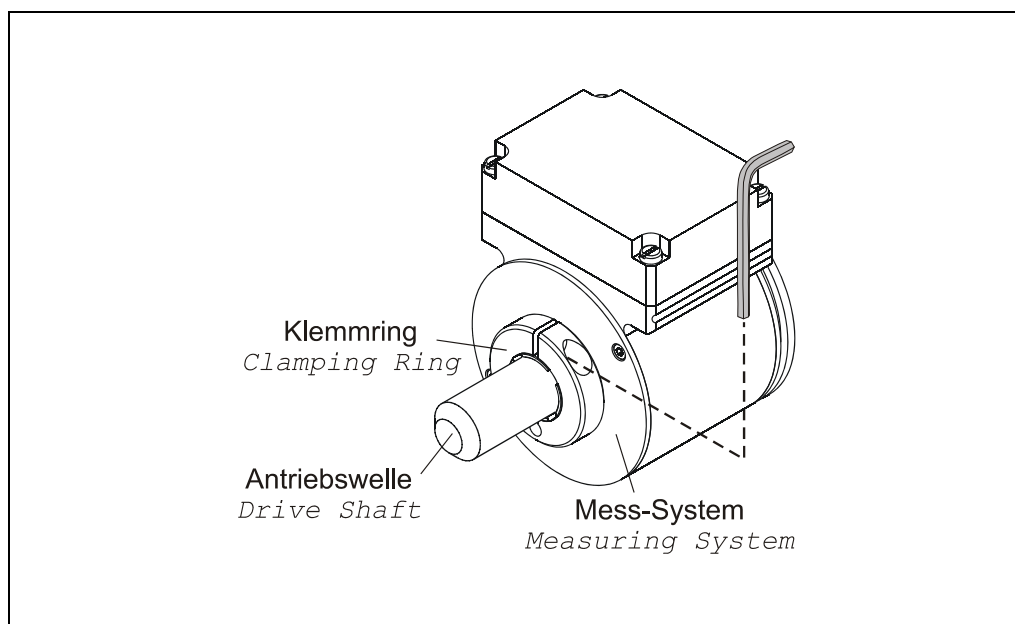

Fig. 3: Friction locking
- The clamping ring fixing should prevent axial slippage of the measuring system on the drive shaft, see Figure 3.